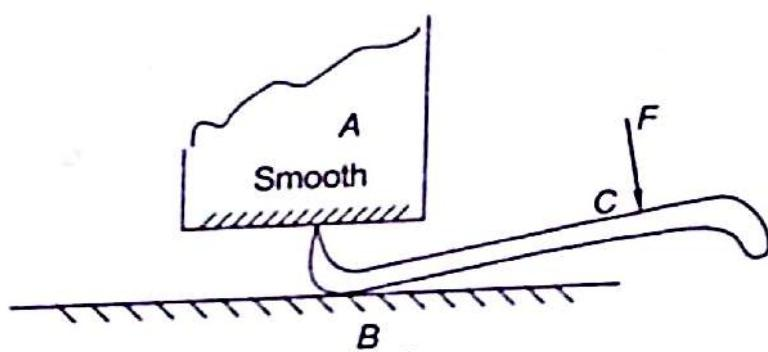

Fig. 3.54
- 3.1** A pry bar is lifting a body *A* having a smooth horizontal surface. Bar rests on a horizontal rough surface. Draw free body diagram of pry bar (Fig. 3.54).